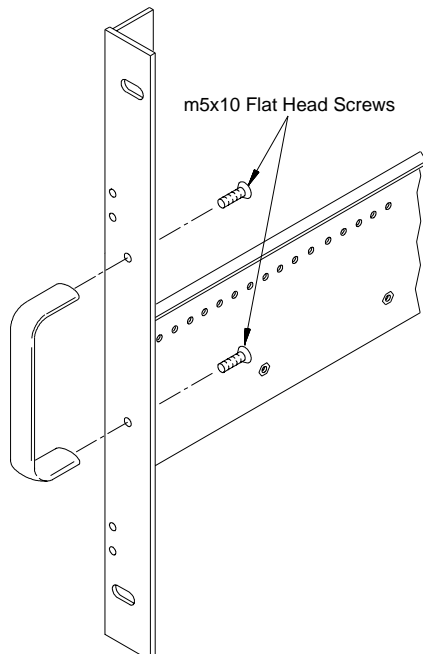

Figure 2-5. Attaching Handles to the Adapters (Option 923 - kit p/n E8400-80923).
1. Attach the handles to the standard adapters using the m5x10 flat head screws (Figure 2-5). Handles are included only with the HP E840xA Standard adapters (Option 923).